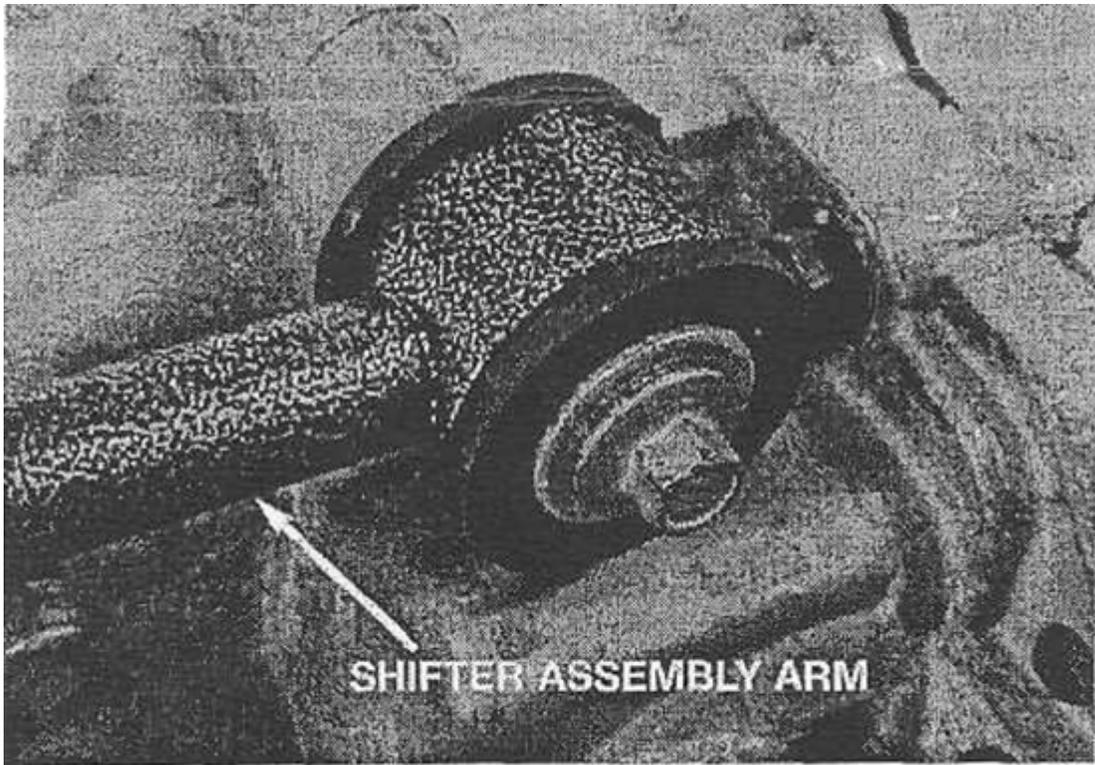

Figure 3
8. Using a 10 mm wrench, remove the front bolt that secures the shifter assembly arm to the transmission and set aside (see fig.3).
1. Place Hurst shifter assembly on workbench. Insert the two (2) metal-flanged sleeves into the urethane bushings located in the Hurst shifter assembly arm. Insert the two (2) plastic linkage rod bushings into the shifter stick bottom. Lightly lubricate as needed.
3. From underneath the car, attach front shifter arm to the transmission. Lightly lubricate threads and replace hex bolt previously removed but do not tighten (see fig.3).